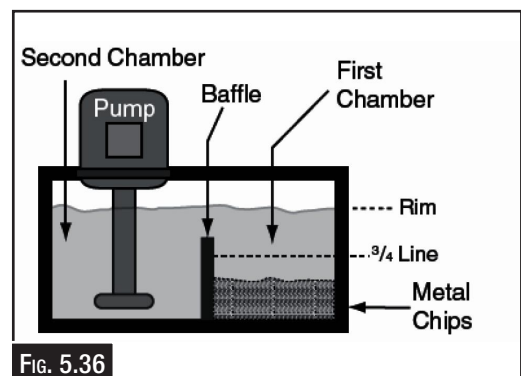

Fig. 5.36
4. Using a wooden stick, check the level of the metal chips in the first chamber (Fig. 5.36). If the chips are 3/4 the height of the baffle, then remove the chips.